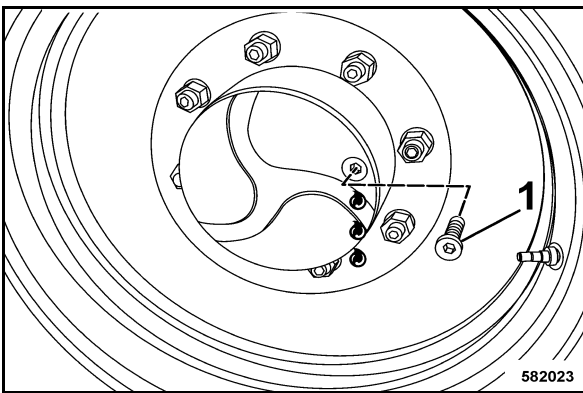

Fig. 131
- Park the machine so that the plug (1) (Fig. 131) is in horizontal position.